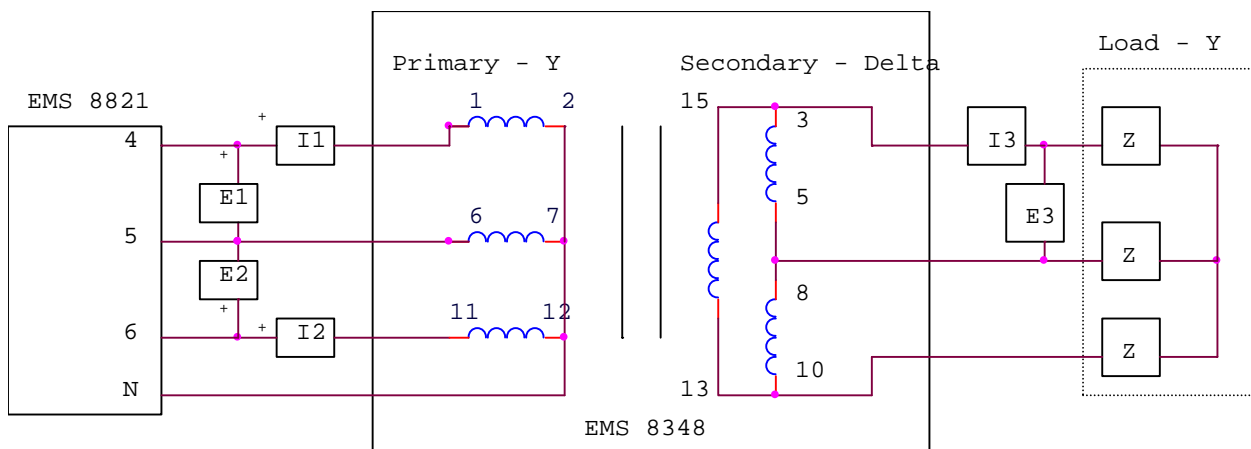

Figure 5: Y-Δ connected three-phase transformer for part three.
15. Repeat steps 13 and 14 using the circuit of Figure 5.